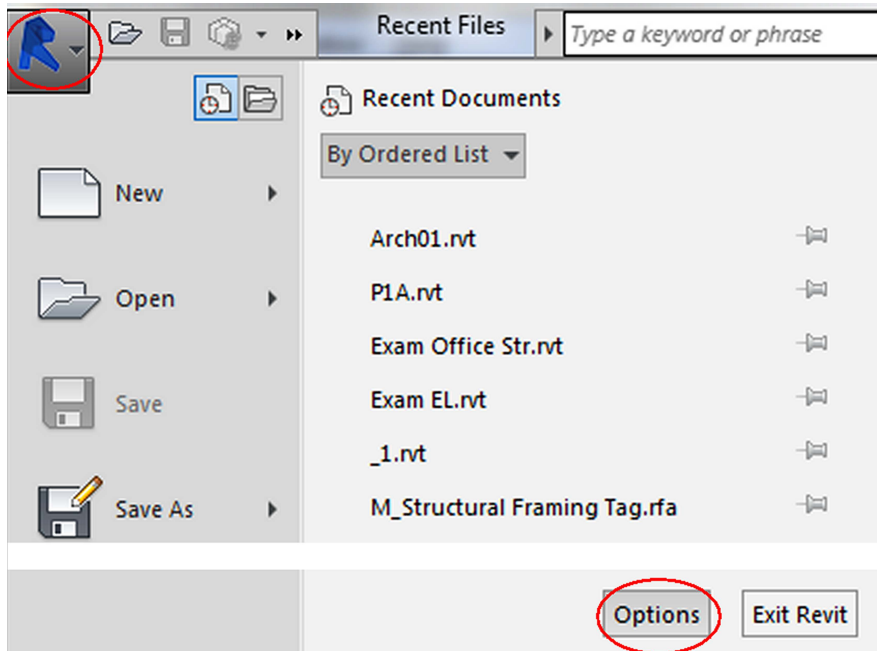

Fig. 1.1 – Revit Button
5. Click on Options as shown in Fig 1.1.